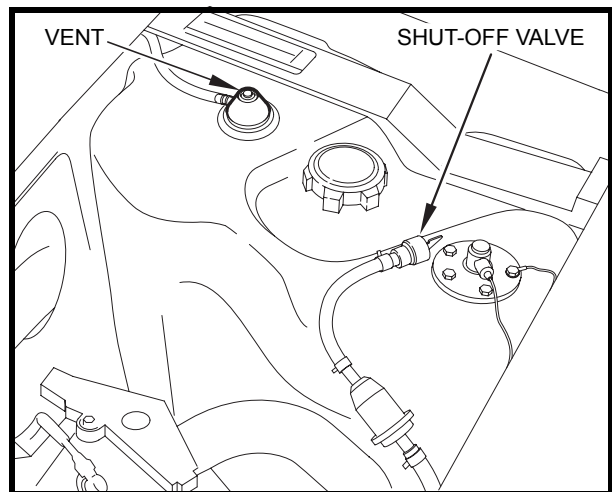

Figure 10-2 Fuel Tank
- If the vehicle has an all-weather enclosure installed, the fuel tank must be properly vented as shown (Figure 10-2, Page 10-5).
3. The fuel tank is located on the driver side of the vehicle (**Figure 10-2, Page 10-5**). Remove fuel cap and fill the fuel tank with fresh unleaded fuel only. **See preceding CAUTION and NOTE.**